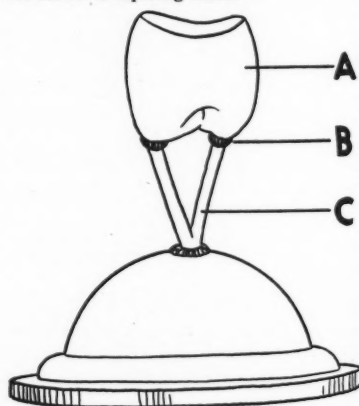

Fig. 4—Sprue and mount bicuspid crown. A, Fitted tin crown; B, sticky wax; C, 14 gauge wax sprue.
12. Replace on tooth for final inspection of occlusion and of gingival margins. Remove and sprue with 14 gauge wax sprues on cusps as shown in Figs. 4, 5, and 6.
1. Put 14 to 18 gauge wax sprue on each high cusp and bring them all to one (Figs. 4, 5, and 6).